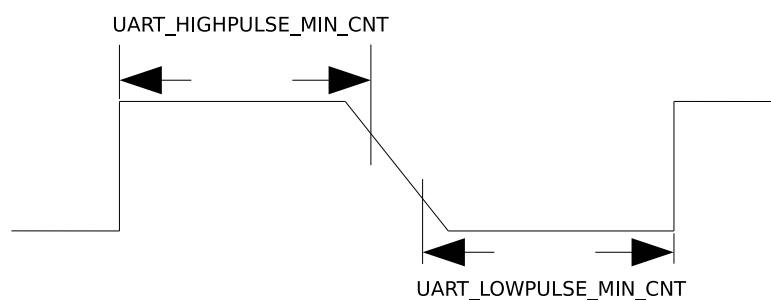

Figure 19-5. The Timing Diagram of Weak UART Signals Along Falling Edges
- If UART signals are weak along falling edges as shown in Figure 19-5, which leads to an inaccurate average of `UART_LOWPULSE_MIN_CNT` and `UART_HIGHPULSE_MIN_CNT`, use `UART_POSEDGE_MIN_CNT` to determine the transmitter's baud rate as follows: